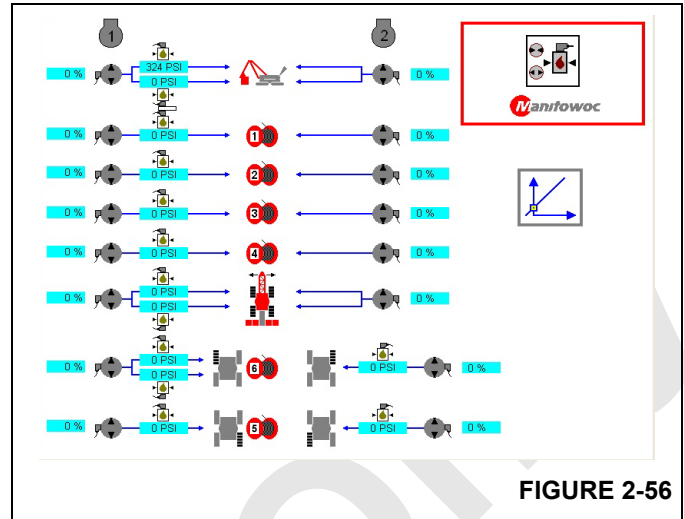

FIGURE 2-56
4. Next, press  to make the Pressure Test and Calibration Test screen appear (Figure 2-56).